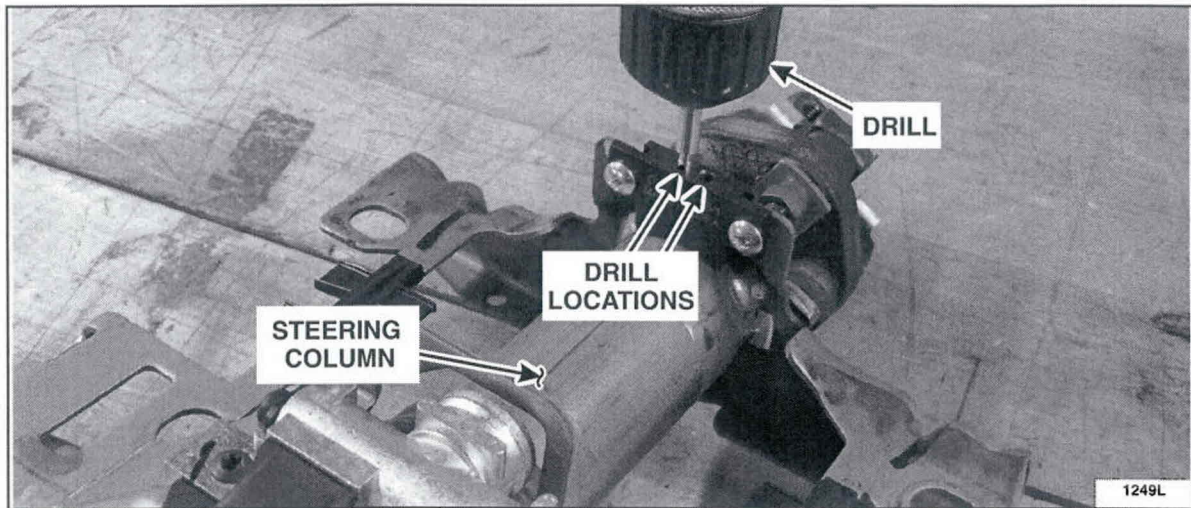

FIGURE 12
6. Drill out both hole locations using a drill and the supplied drill bit from Rotunda Special Tool Kit TKIT-2013A-FLM. Drill bit depth is critical, use the supplied drill bit only. See Figure 12.